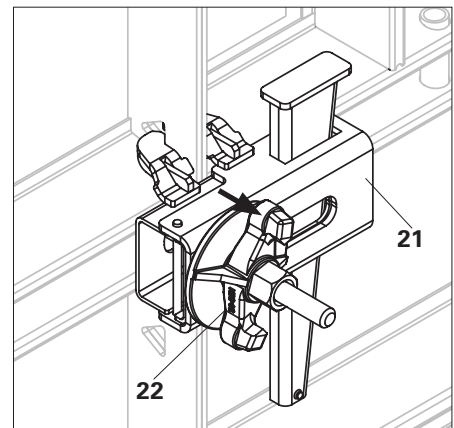

Fig. A4.08
7. Hammer the wingnut counterplate DW 15 (30) to ensure that the Tie system DW 15 (22) is perfectly tightened with the Alignment Clamp (21). (Fig. A4.08)